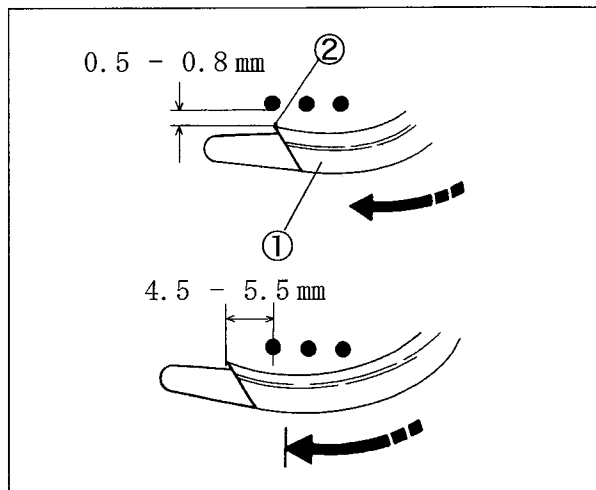

Fig. 6-9
- (2) Make the clearance between the left needle and the hook ② of the spreader ① to 0.5 - 0.8 mm. (Fig. 6-9)
- (3) Make the distance between the center of the left needle and the hook ② to 4.5 - 5.5 mm when the spreader ① is at the extreme left. Then tighten the screw ④ securely. (Fig. 6-9 and 6-11)